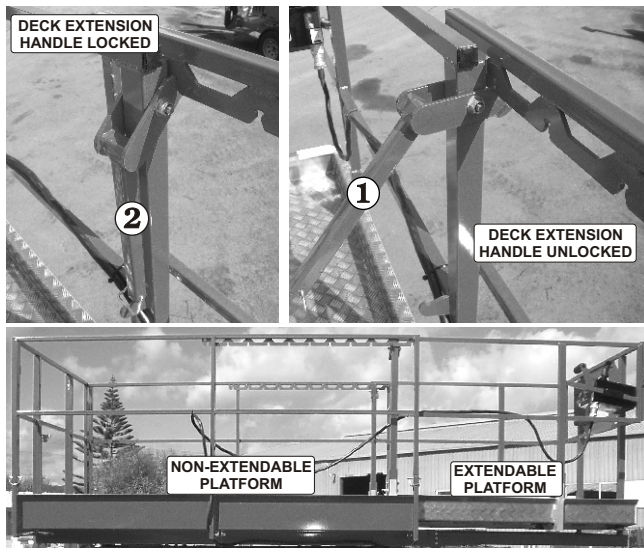

Figure 8.26
The MULTI-position extendible platform (see Figure 8.26) can be securely locked into different positions. To move it from one (1) position to the other do the following:
2. Lift up the deck extension handles (one (1) for each side of the deck) **1** to unlock the deck (see Figure 8.26).
4. Lower the deck extension handles and allow the lock **2** to locate (see Figure 8.26).